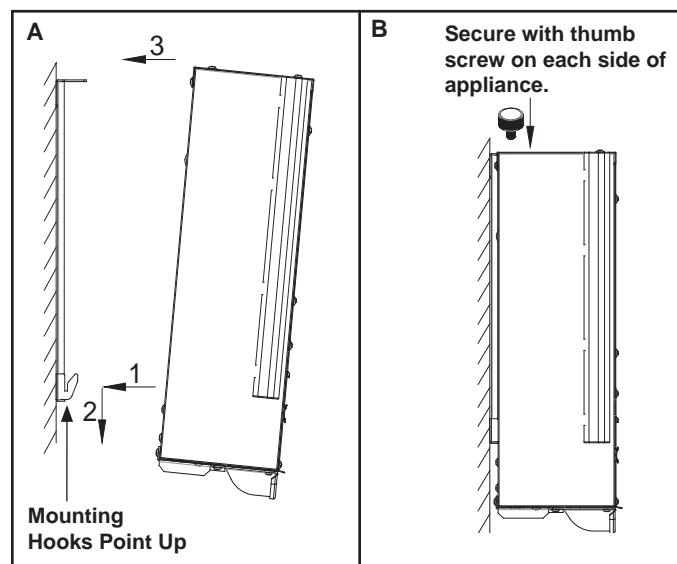

Figure 11 Attaching Fireplace to Bracket
- With the firebox at an angle, align the slots in the back of the firebox over the hooks on the bottom of the wall bracket. Pull the appliance down to ensure that the hooks are fully engaged. See Figure 11 A.
- Carefully press the top of the firebox against the wall mount bracket sliding the top edge over the wall mount bracket tabs. See Figure 11 B.
- Secure the appliance to the bracket with two thumb screws. See Figure 11 B.